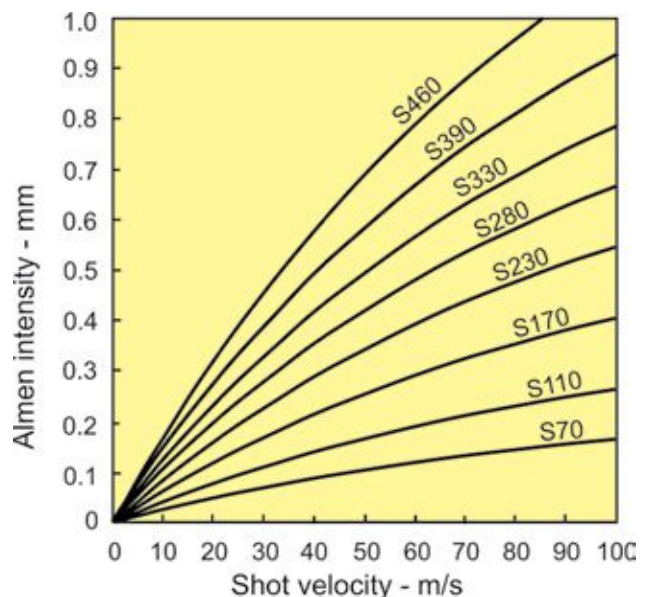

Fig.10 Almen intensity versus shot velocity.
As an example, using S170 shot ($S = 170$) having a velocity of 300 ft/sec ($v = 300$), equation (3) predicts an intensity of 0.015". A 10% reduction in shot velocity ($v = 270$) predicts an intensity reduced to 0.014. Fig.10 is a graphical representation of the variation of predicted intensity versus shot velocity for a range of shot sizes, obtained using equation(2).